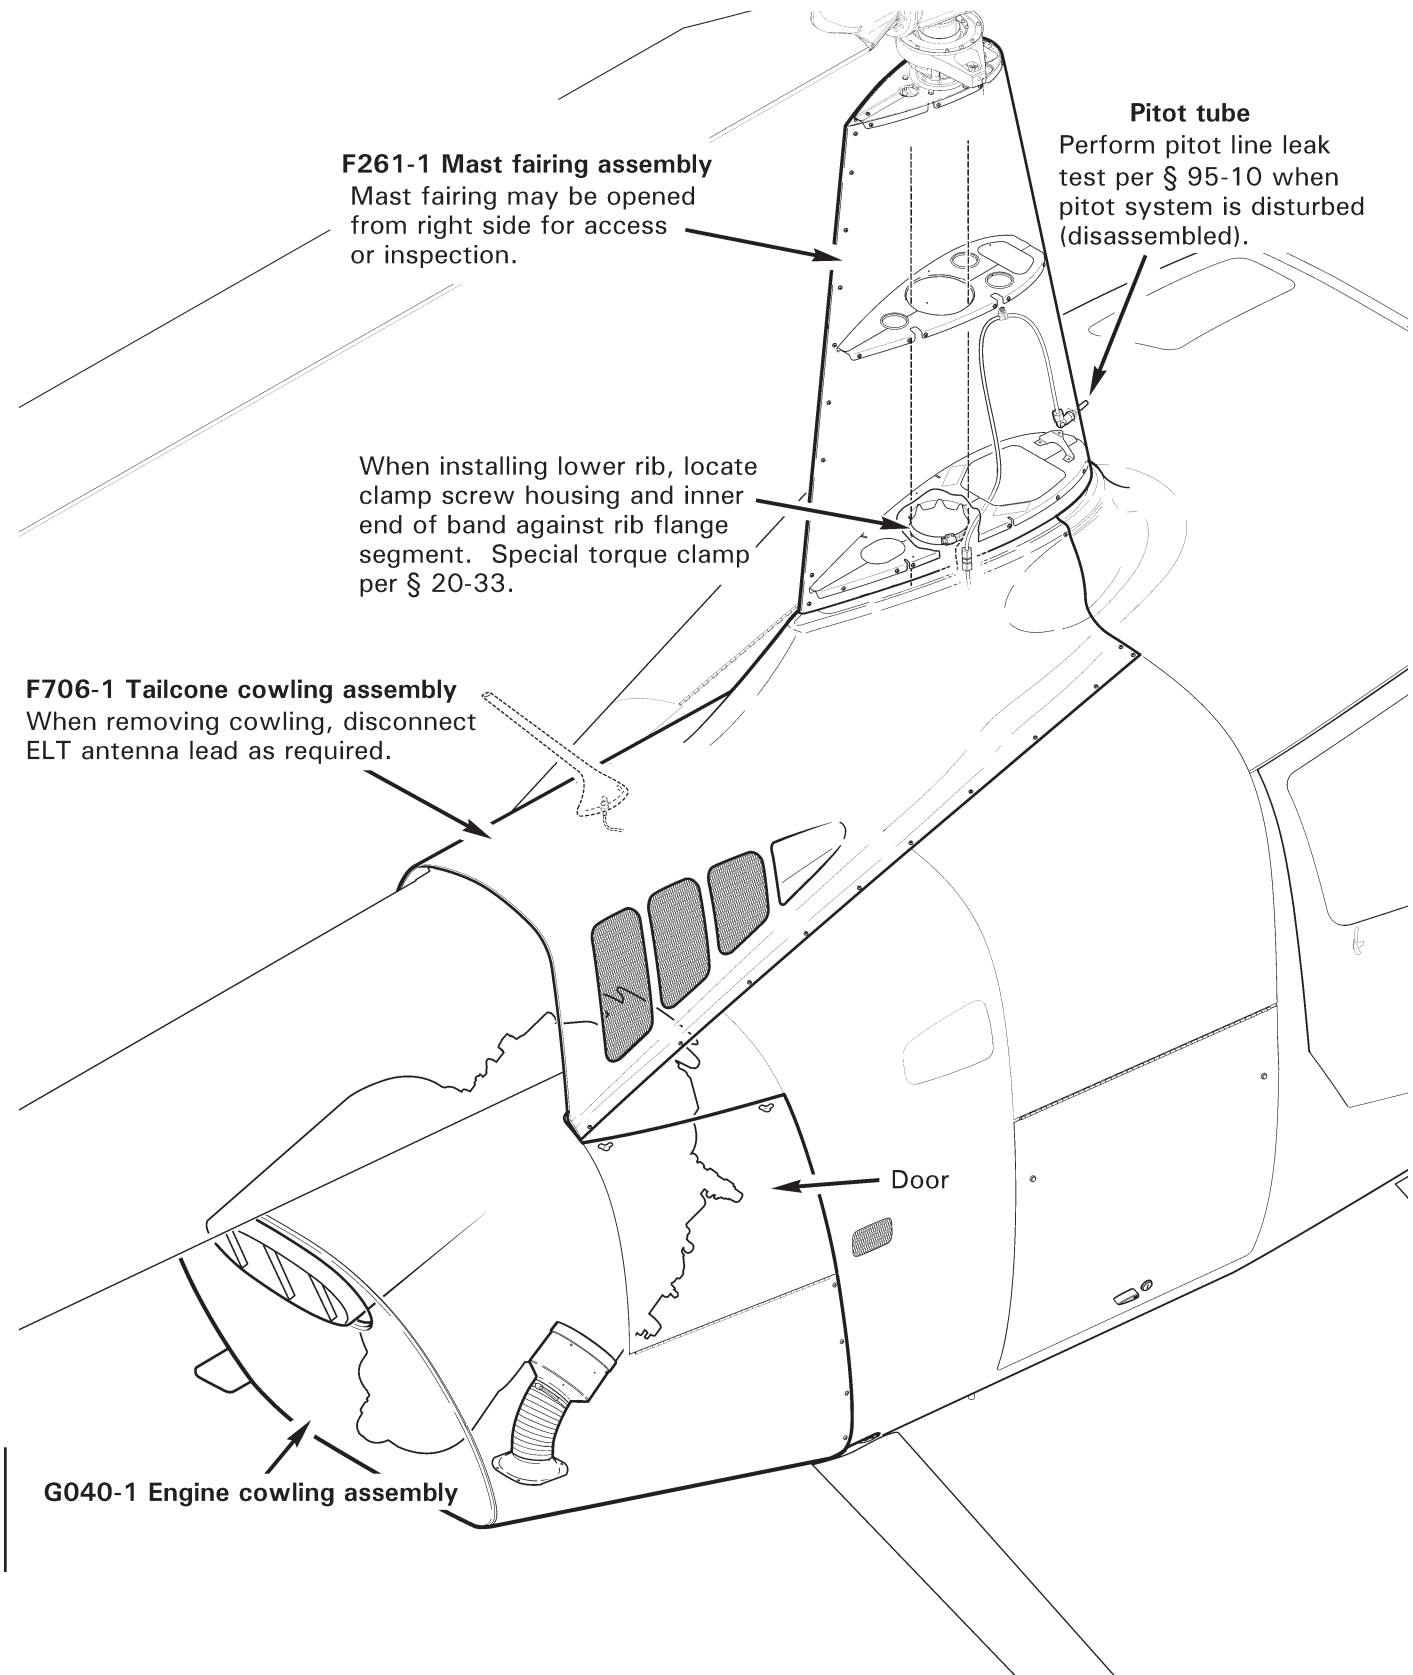

FIGURE 53-1 FAIRING, COWLINGS, AND PANELS
1. Refer to Figure 53-1. Open G040-1 engine cowling assembly right and left doors.
1. Refer to Figure 53-1. Position G040-1 engine cowling assembly on helicopter, fasten cowling doors, and install screws securing cowling to fuselage.
1. Refer to Figure 53-1. Remove right-side screws securing F261-1 mast fairing assembly at aft, vertical seam.
1. Refer to Figure 53-1. Install left-side screws securing F261-1 mast fairing assembly to ribs.
1. Refer to Figure 53-1. Thru left access door, disconnect ELT antenna lead from antenna mounted to F706-1 tailcone cowling assembly, as required.